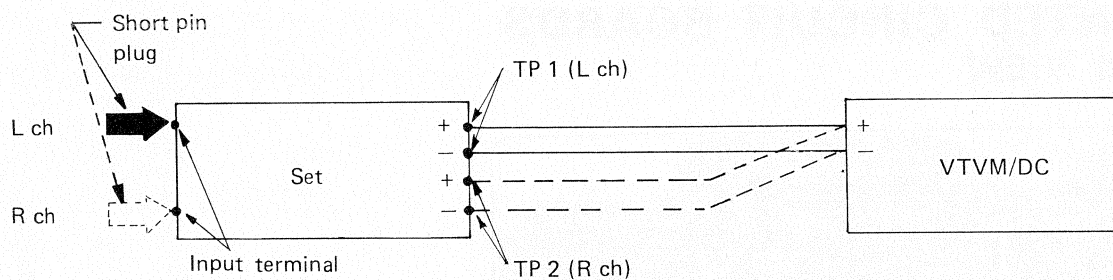

Figure 14
- (1) Connect test equipments as shown in Figure 14.
- (2) Short the input terminal with short pin plugs.
- (3) Adjust the SVR 501 (L ch), and SVR 502 (R ch) as the VTVM indicates 20mV DC.